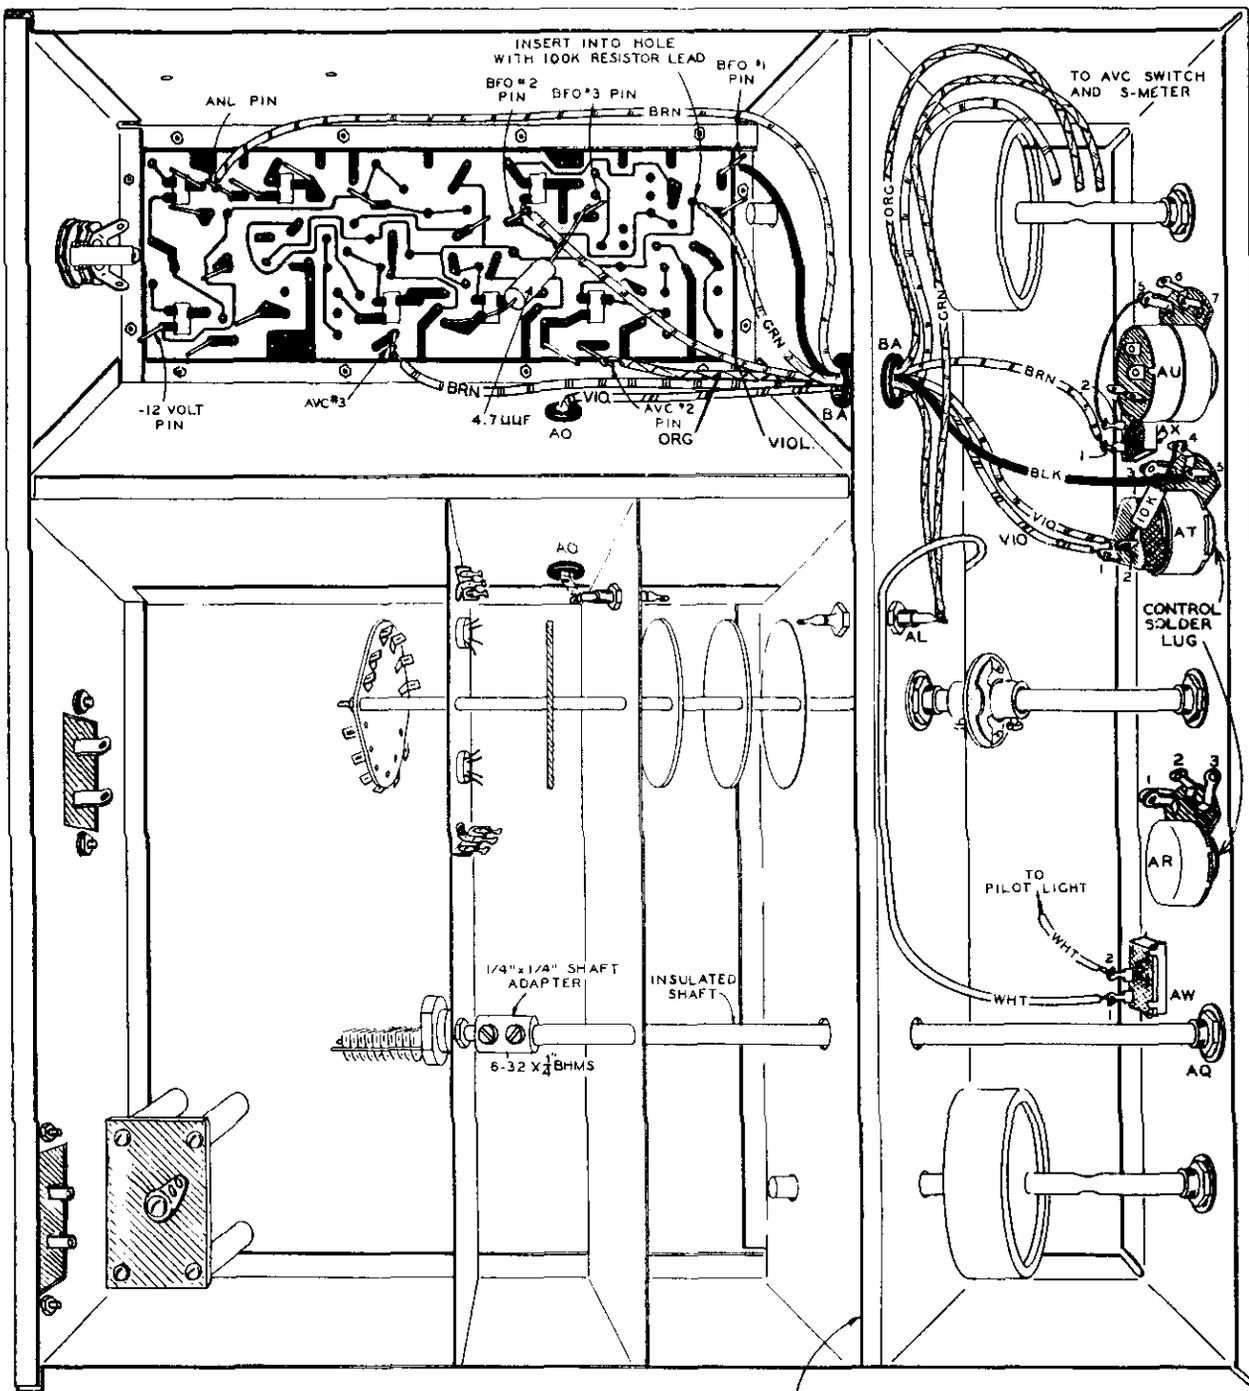

Figure 22
(✓) Mount the phone jack AF. Insert the phone jack with a control lockwasher on the bushing, through the chassis from the inside. Secure with a 3/8" control nut. See Figure 22.
- (✓) See Figure 22 and start two 6-32 x 1/4" BHMS into the 1/4" x 1/4" rigid shaft coupling. Place a shaft adaptor on the antenna tuning capacitor. Slide the 1/4" x 1/4" shaft coupling on the antenna capacitor shaft and tighten.
- (✓) Locate the 1/4" to 1/4" flexible coupler and slide the coupler onto the band switch shaft until the end of the shaft is approximately at the center of the coupler. Secure the two screws holding the coupler to the shaft. See Figure 22.
Refer to Figure 22 for the following steps.
- (N) Cut both leads of a 10 K $\Omega$  resistor (R48, brown-black-orange) to 3/4" in length. Connect one lead to lug 4 of the BFO control AT (S-1). Connect the other lead to lug 2 of the BFO switch AT (NS).
- (N) Connect one end of a 7" length of violet hookup wire to lug 2 of the BFO switch AT (S-2). Run the other end of this wire through grommet BA and connect to the BFO terminal pin 2 (S-1).
- (N) Connect one end of a 5" length of black wire to lug 5 of BFO control AT (S-1). Run the other end through grommet BA and connect to BFO terminal pin 1 (S-1).
- (V) Cut both leads of a 4.7  $\mu$ mf capacitor C60 to a 1" length. Connect one lead to BFO terminal pin 3 (S-1). Connect the other end to the #404-40 transfilter terminal that is circuit board connected to the collector of X5 (S-1). See Figures 22 and 24.
- (V) Connect one end of a 3" length of bare wire to lug 2 of ANL switch AX (S-1). Connect the other end of this lead to lug 5 of the VOLUME control AU (NS).
- (V) Bend the control solder lug until it touches lug 5 of AU and solder the two lugs and bare wire.
- (V) Connect one end of a 13" length of brown wire to lug 1 of ANL switch AX (S-1). Run the other end through grommet BA and connect to the ANL terminal pin (S-1). Position wire as shown.
- (V) Connect one end of a 9" length of orange wire to the AVC terminal pin 2 (S-1). Run the other end of this lead through grommet BA and up toward the AVC switch. This end will be connected later.
- (V) Connect one end of a 12" length of brown wire to AVC terminal pin 3 (S-1). Run the other end through grommet BA and up toward the AVC switch and S-meter.